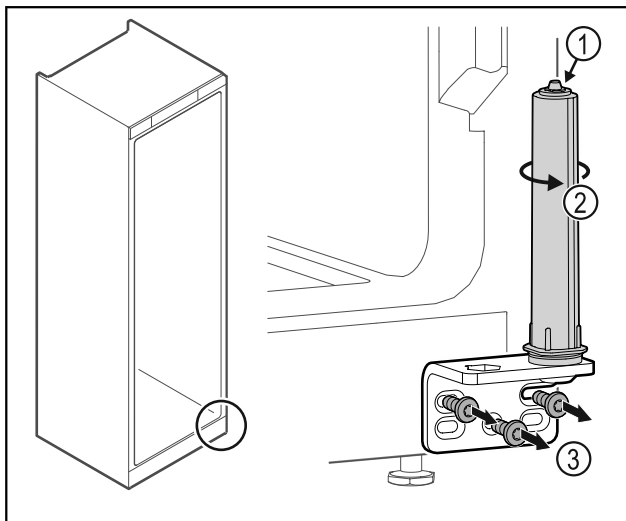

Fig. 33
- ▶ Do not disassemble the door closing system Fig. 33 (1).
- ▶ Turn the closing system Fig. 33 (2) until it clicks.
- ▶ Unscrew the hinge Fig. 33 (3).